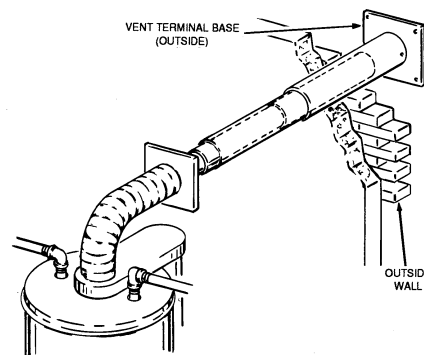

FIGURE 12
8. From the outside of the building, insert the 5 inch tube/base assembly through the hole in the exterior wall and onto the 5 inch elbow. Then seal the base onto the wall. See figure 12.